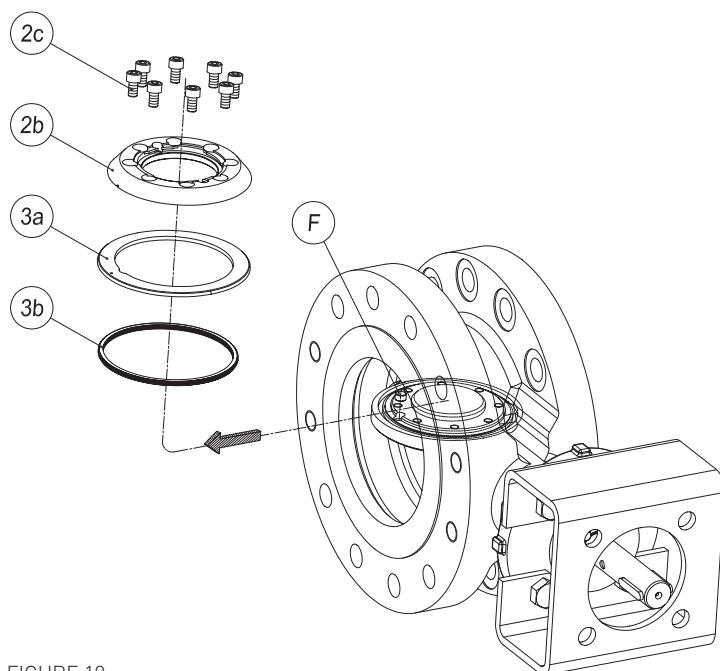

FIGURE 10
7. Carefully remove the retainer flange screws (2c), the retainer flange (2b), the seal ring (3a), the disc gasket (3b) – figure 10: